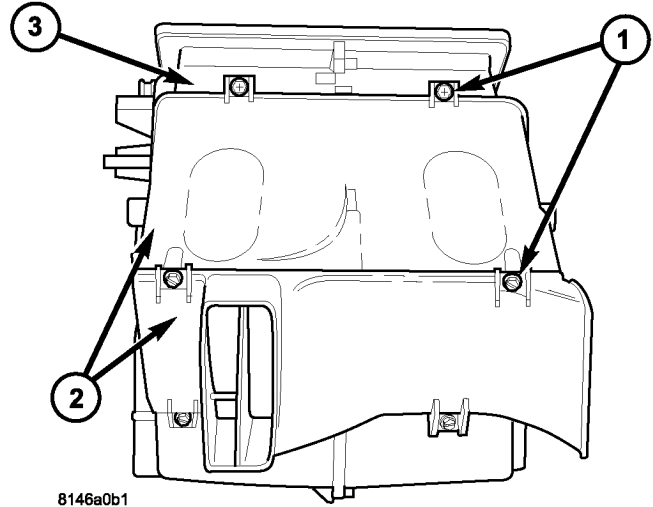

Fig. 21 Front Floor Distribution Duct
(5) Remove the six screws that secure the floor distribution ducts to the air distribution housing and remove the ducts (Fig. 21).